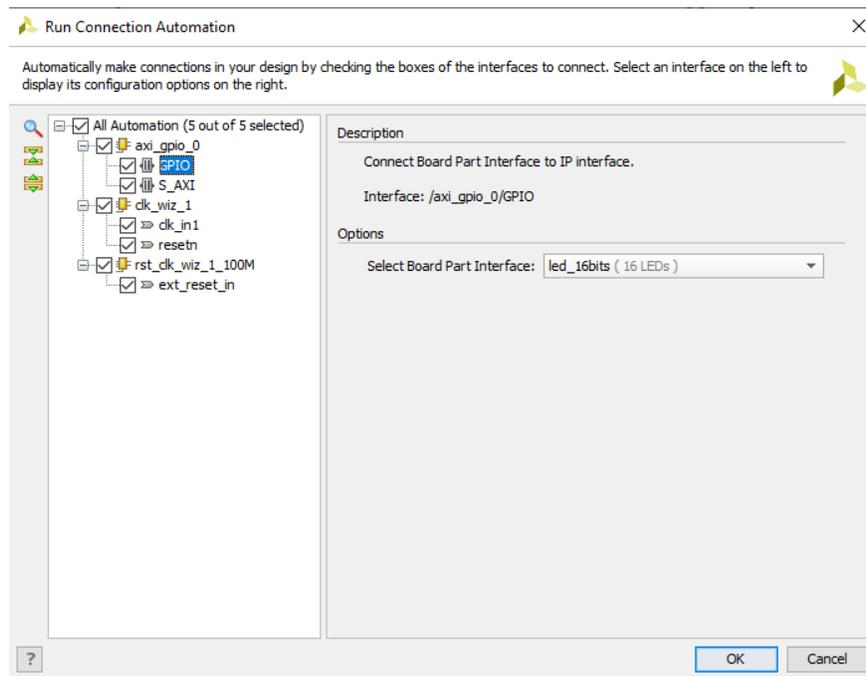

Figure 9: Run Connection Automation dialog box.
13. Next, select the *All Automation* check box to enable automation for all five available signals, as shown in Figure 9. Click OK.